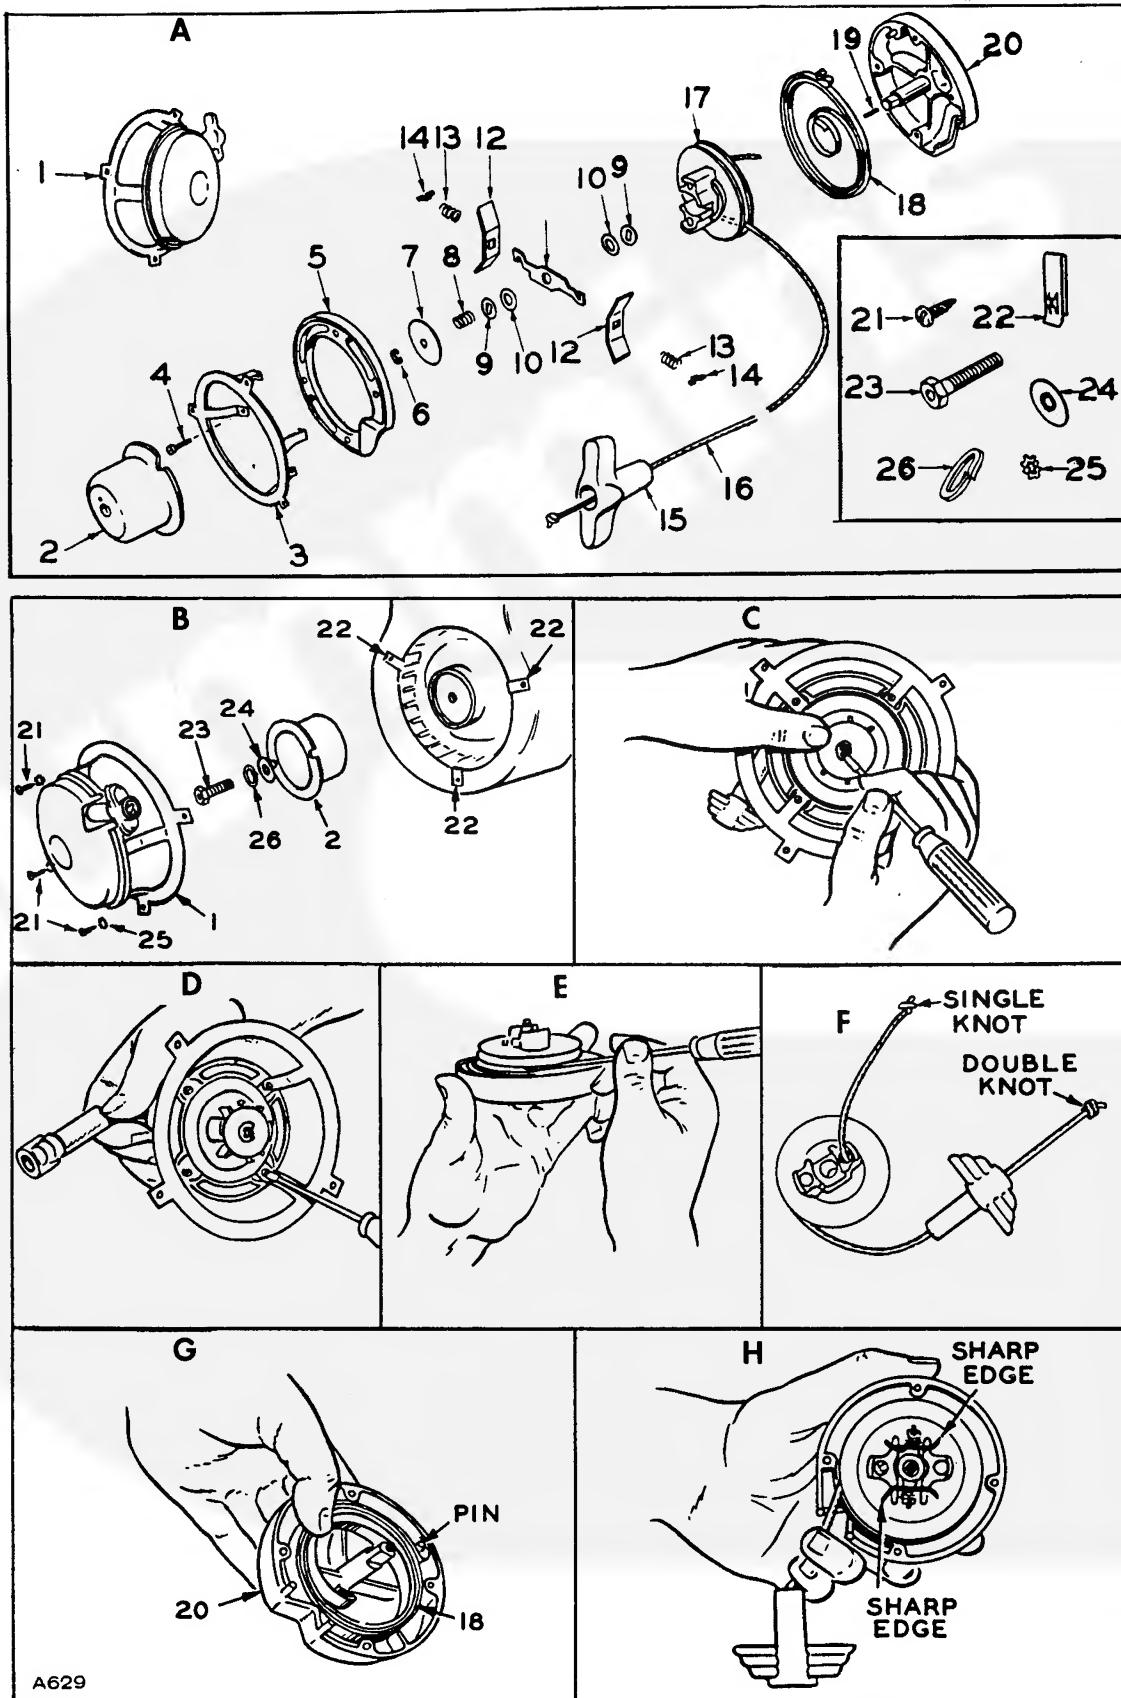

FIGURE 6-20. SERVICING THE RECOIL STARTER
Installation: Follow each step below in sequence, referring to Figure 6-20.
2. Hold the cord and cover as shown in window D of Figure 6-20 and remove the screws holding mounting ring 3 and flange 5. Allow cord rewind spring 18 to unwind slowly.
1. Rewind recoil spring 18 in housing 20. Make sure that the hook on the outside of the spring engages the pin in the housing, and that the spring is coiled in the right direction (Window G, Figure 6-20). Lubricate the spring and shaft with a few drops of SAE 20 or 30 oil. For extremely dusty service use powdered graphite. Avoid getting lubricant on brake washers 9 and 10.
2. Tie a single knot in one end of starter cord 16 (window F, Figure 6-20).
7. With the cord wound on the rotor in the proper direction (Window F, Figure 6-20), turn the rotor and cord two turns for cord pre-tension. Additional turns may be necessary if the spring is weak.